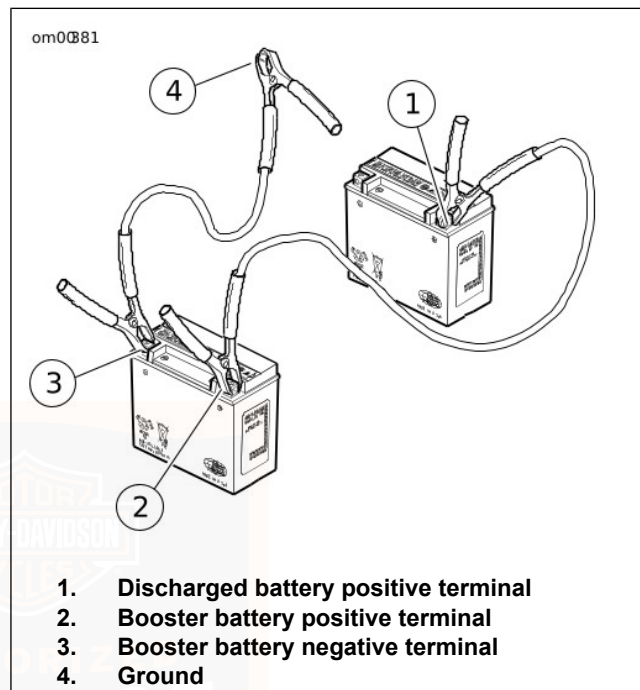

Figure 93. Jump Start Cable Connections
2. See Figure 93. Connect one end of a jumper cable to the motorcycle DISCHARGED battery positive terminal (1).
3. Connect the other end of the same cable to the BOOSTER vehicle battery positive terminal (2).
1. See Figure 93. With the motorcycle continuing to run, remove the negative jumper cable motorcycle ground (4).
2. Remove the negative jumper cable from the BOOSTER vehicle battery negative terminal (3).
3. Remove the positive jumper cable from the BOOSTER vehicle battery positive terminal (2).
4. Remove the positive jumper cable from the DISCHARGED motorcycle battery positive terminal (1).